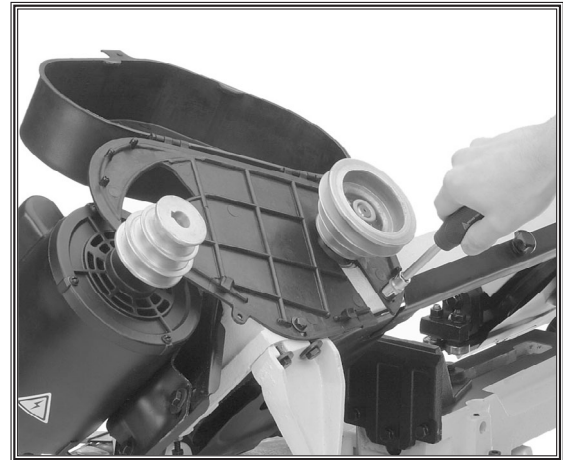

Figure 16. Positioning the pulley cover.
1. Position and rotate the pulley cover into place, as shown in **Figure 16**.